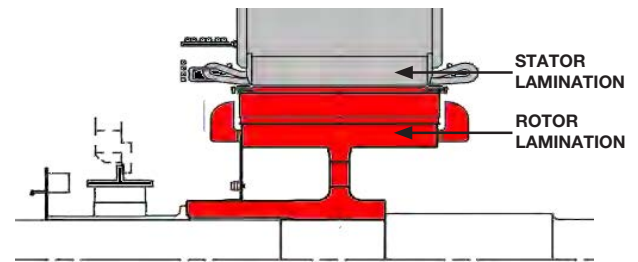

Figure 10-2: Magnetic Center
Magnetic center is a reference position which is determined as the location of the rotor in the stator where no axial forces are generated by the magnetic fields. The magnetic center may be accurately verified using the following procedure and Figure 10-2.
- Using two, small, parallel rods; touch the outermost stator lamination and simultaneously the outermost rotor lamination, as shown in Figure 10-2.